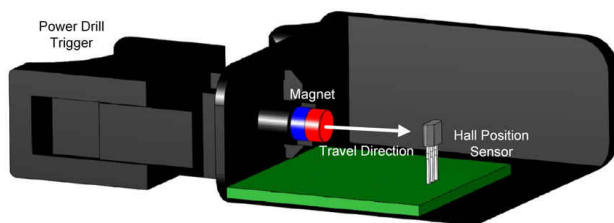

Figure 1. Head-on Configuration in a Power Drill Trigger
A robust contactless method for measuring linear position can be implemented using a magnet and a linear Hall position sensor that are arranged in a head-on configuration, as shown in Figure 1. In this approach, a magnet is placed on the moving component so that it moves along with it. The linear Hall position sensor senses the resulting magnetic flux density from the magnet.
An example moving component that requires linear position measurement is the variable speed trigger in power tools or other appliances, which measures how far the trigger is pressed and translates it into the operating speed of the tool. Figure 1 specifically shows an example of the placement of a cylinder magnet and Hall position sensor for a cordless power drill that uses a head-on configuration for translating how far the trigger is pressed into the speed of the drill. For this example, the magnet is closest to the Hall position sensor when the trigger is fully pressed and it is furthest when the trigger is unpressed. Using a similar approach to Figure 1, the head-on configuration can also be used for level or pressure sensing in washers and dryers and object or wall detection in a robotic vacuum.
- **In-plane versus Out-of-Plane Field Direction:** In-plane 1D position sensors are sensitive to application of the magnet pole in the same plane as the die, similar to the application of the X- or Y-axis magnets shown in Figure 3. Out-of-plane 1D position sensors are sensitive to the magnetic field component that is perpendicular to the die inside the package. The Z-axis magnet in Figure 3 shows the out-of-plane orientation for a SOT23 surface mount package while Figure 1 shows the out-of-plane orientation for a TO-92 through-hole package. 3D Hall position sensors are sensitive to the magnetic field component in X, Y, and Z directions. The X and Y fields are in plane with the package while the Z field is perpendicular (out of plane) to the top of the package, as shown in Figure 3.